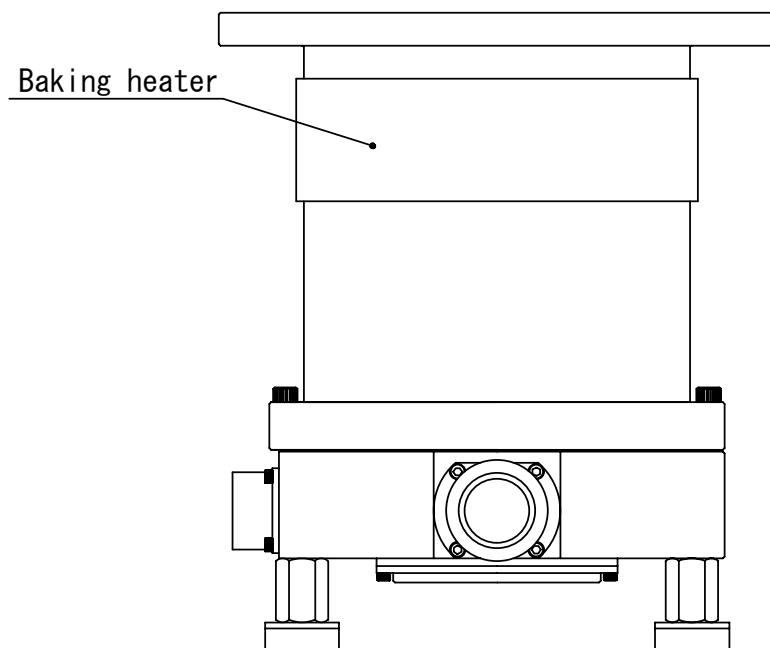

Figure 5.1 Attaching Positions of the Cooling Unit and Baking Heater
Connect the cooling water pipe to the cooling water port in accordance with Figure 5.1.
- 2) Affix the hot surface warning label attached on the surface of the pump seen well. (See Figure 5.1, "Attaching Positions of the Cooling Unit and Backing Heater")